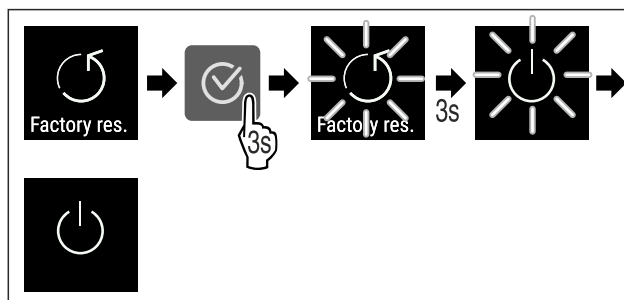

Fig. 92
- Complete the steps (see Fig. 92) .